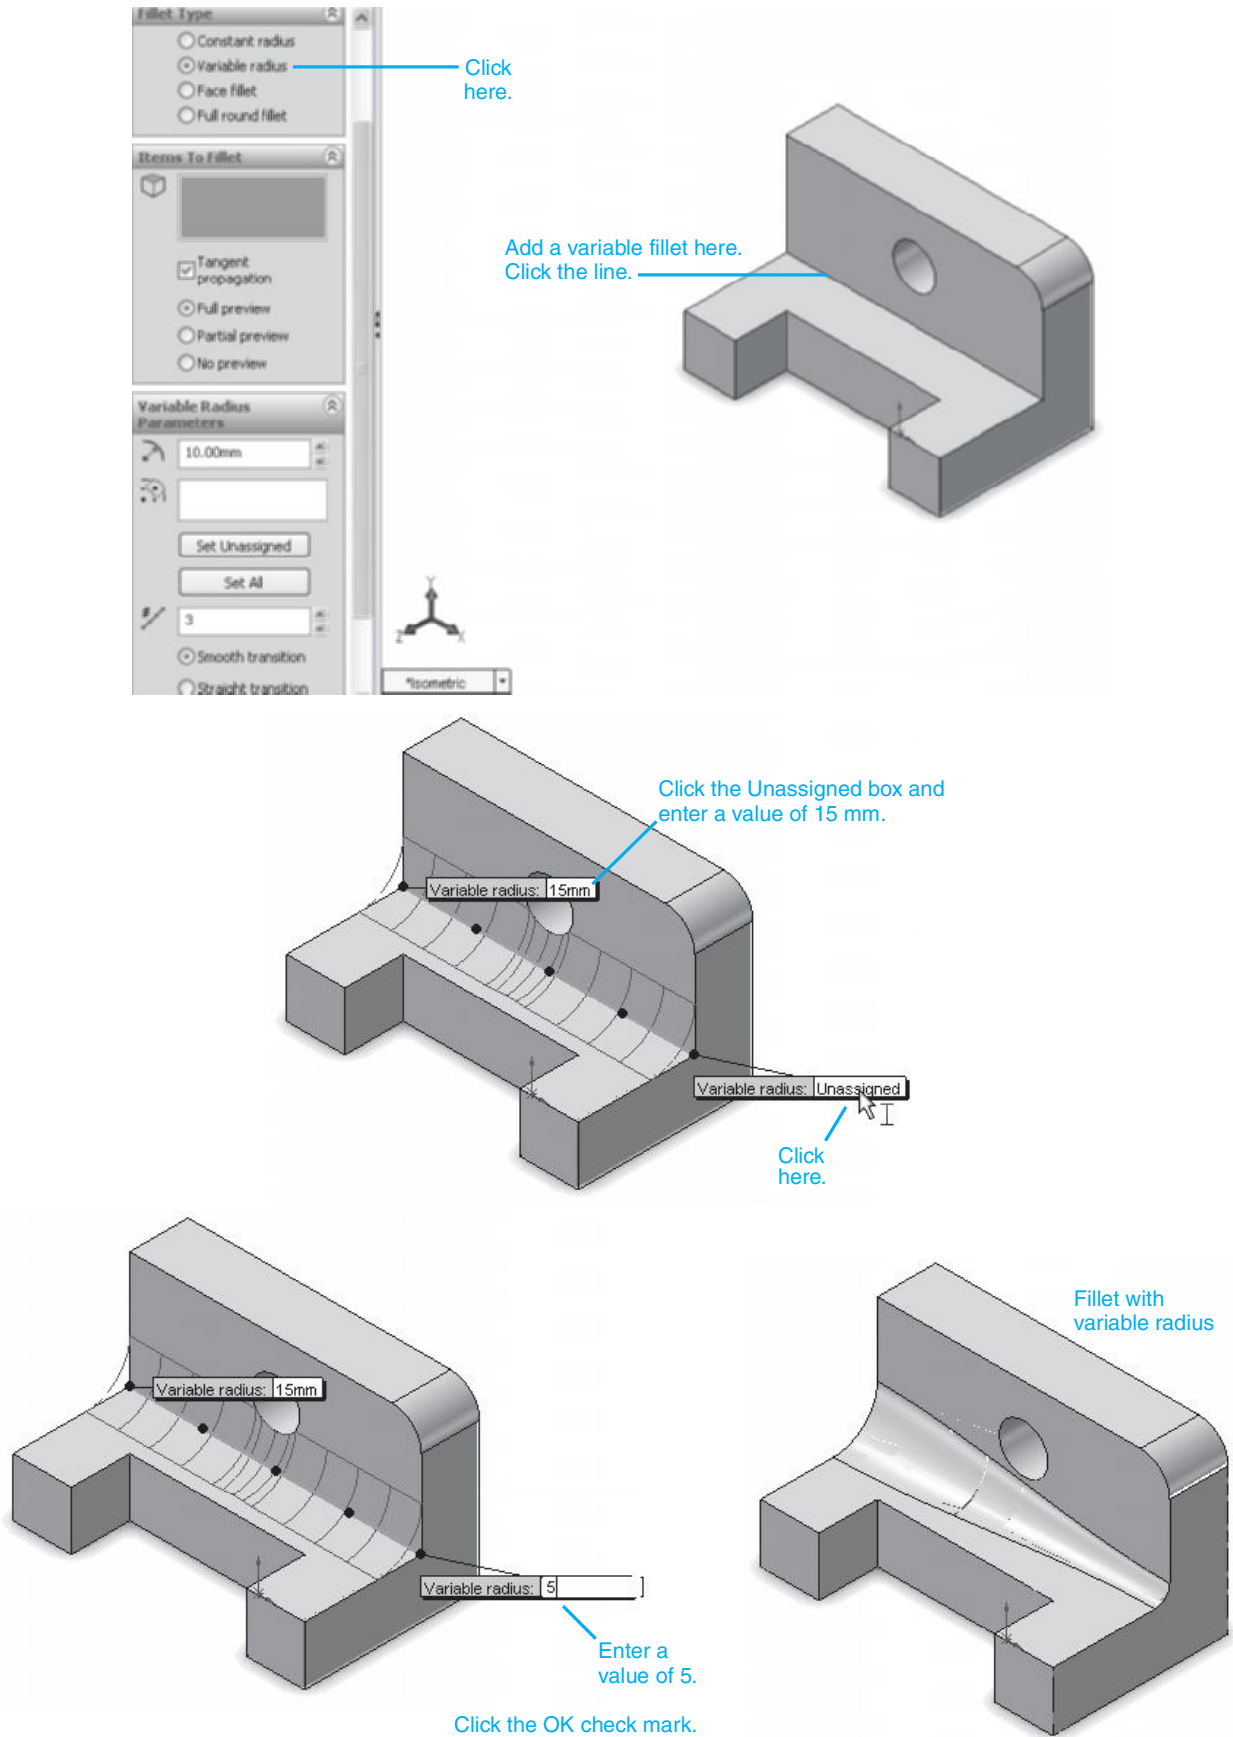

Figure 3-10
See Figure 3-10.
3. Click the edge line shown in Figure 3-10.